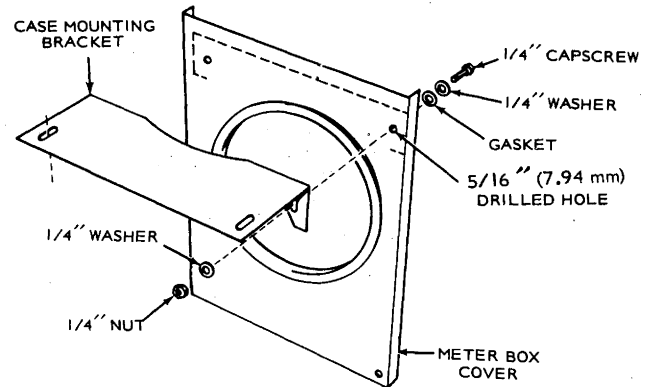

FIGURE 7
- 7** A. Mount the case mounting bracket on meter box cover with hardware as shown in Figure 7.